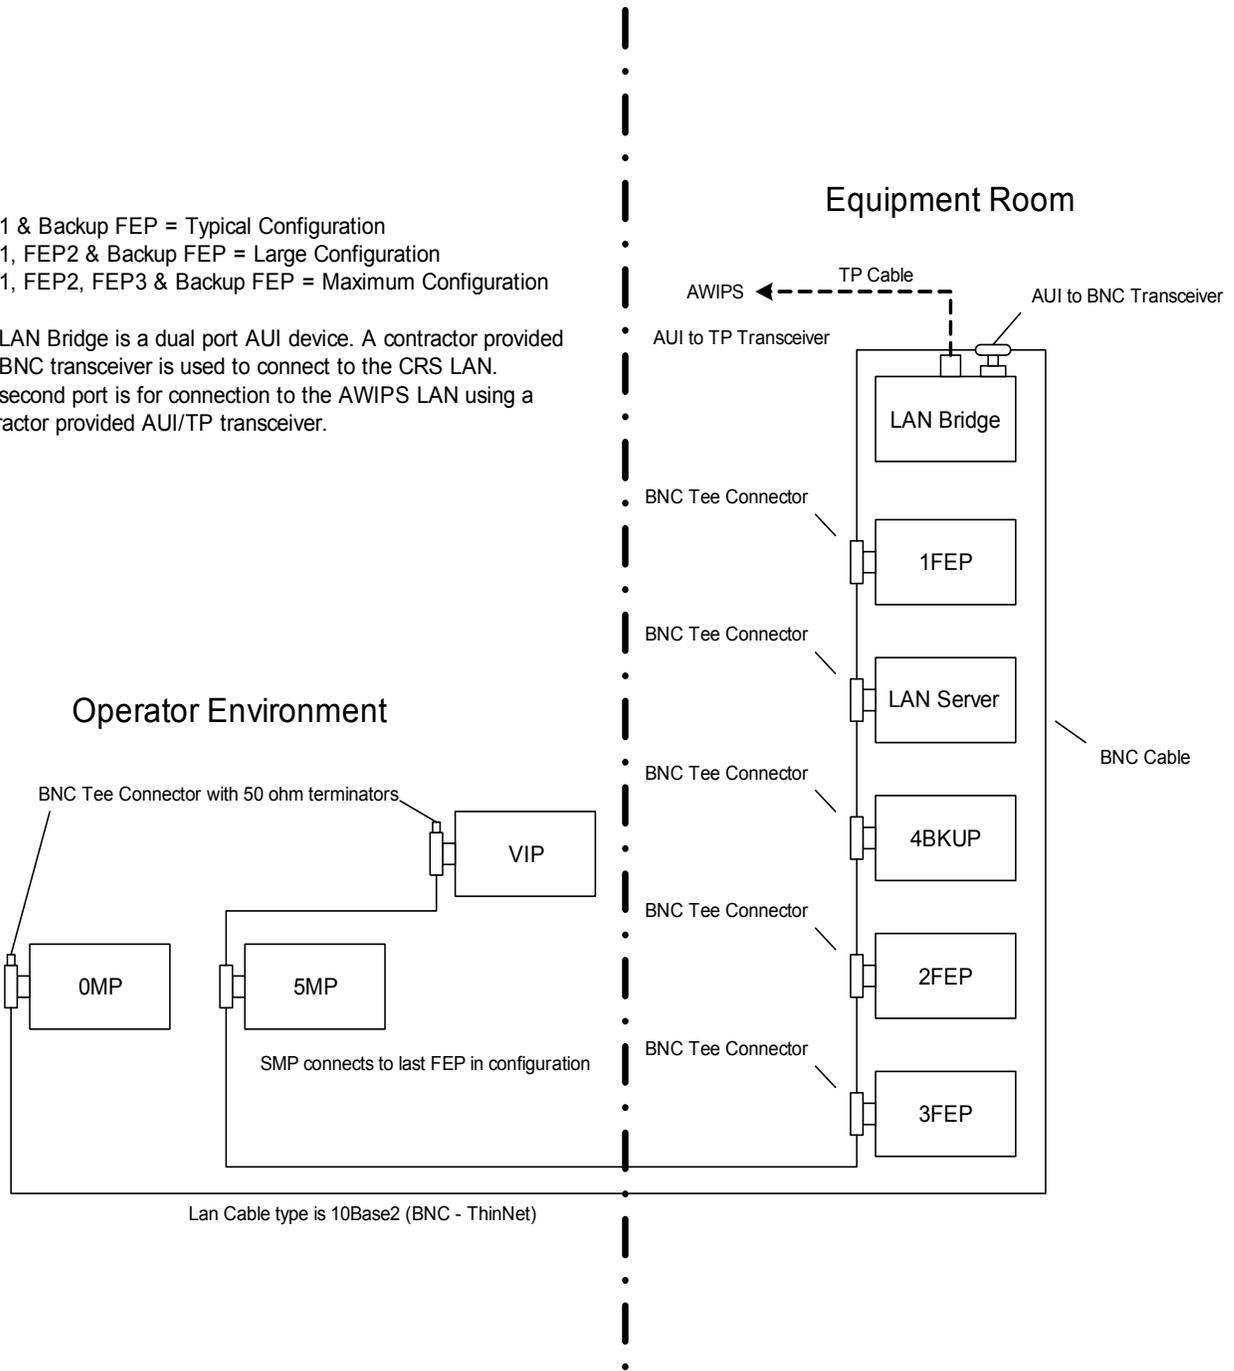

Figure A-15. LAN Cable Distribution Scheme
- Figure A-15.** LAN Cable Distribution Scheme